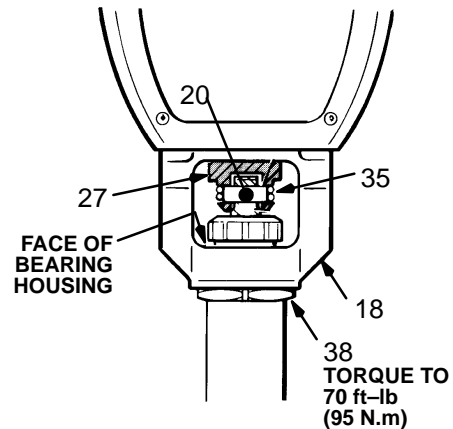

Fig 36-2
15. Screw the displacement pump about 3/4 of the way into the bearing housing (18). Hold the pin (20) up to the pin hole in the connecting rod assembly (27) and continue screwing in the pump until the pin slides easily into the hole. Back off the pump until the top threads of the pump cylinder are flush with the face of the bearing housing and the outlet nipple (46) is straight back. Push the retaining spring (35) into the groove all the way around the connecting rod. Tighten the locknut (38) very tight—about 70 ft-lb (97 N.m)—with a 2 in. open-end wrench and a light hammer. Refer to Fig 36-2.
Be sure the retaining spring (35) is firmly in the groove of the connecting rod, all the way around, to prevent it from working loose due to vibration. Refer to Fig 36-2.